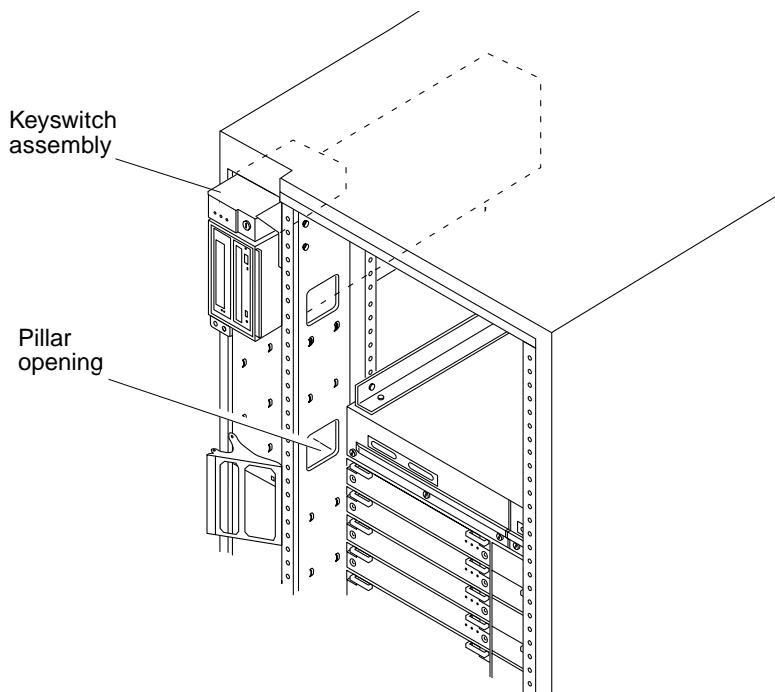

FIGURE 1-10 Pillar Opening for Cable Routing
1. Route the new keyswitch cable included in the upgrade kit through the opening in the cabinet pillar below the SCSI tray (FIGURE 1-10). Do not connect the cable to the keyswitch at this time.